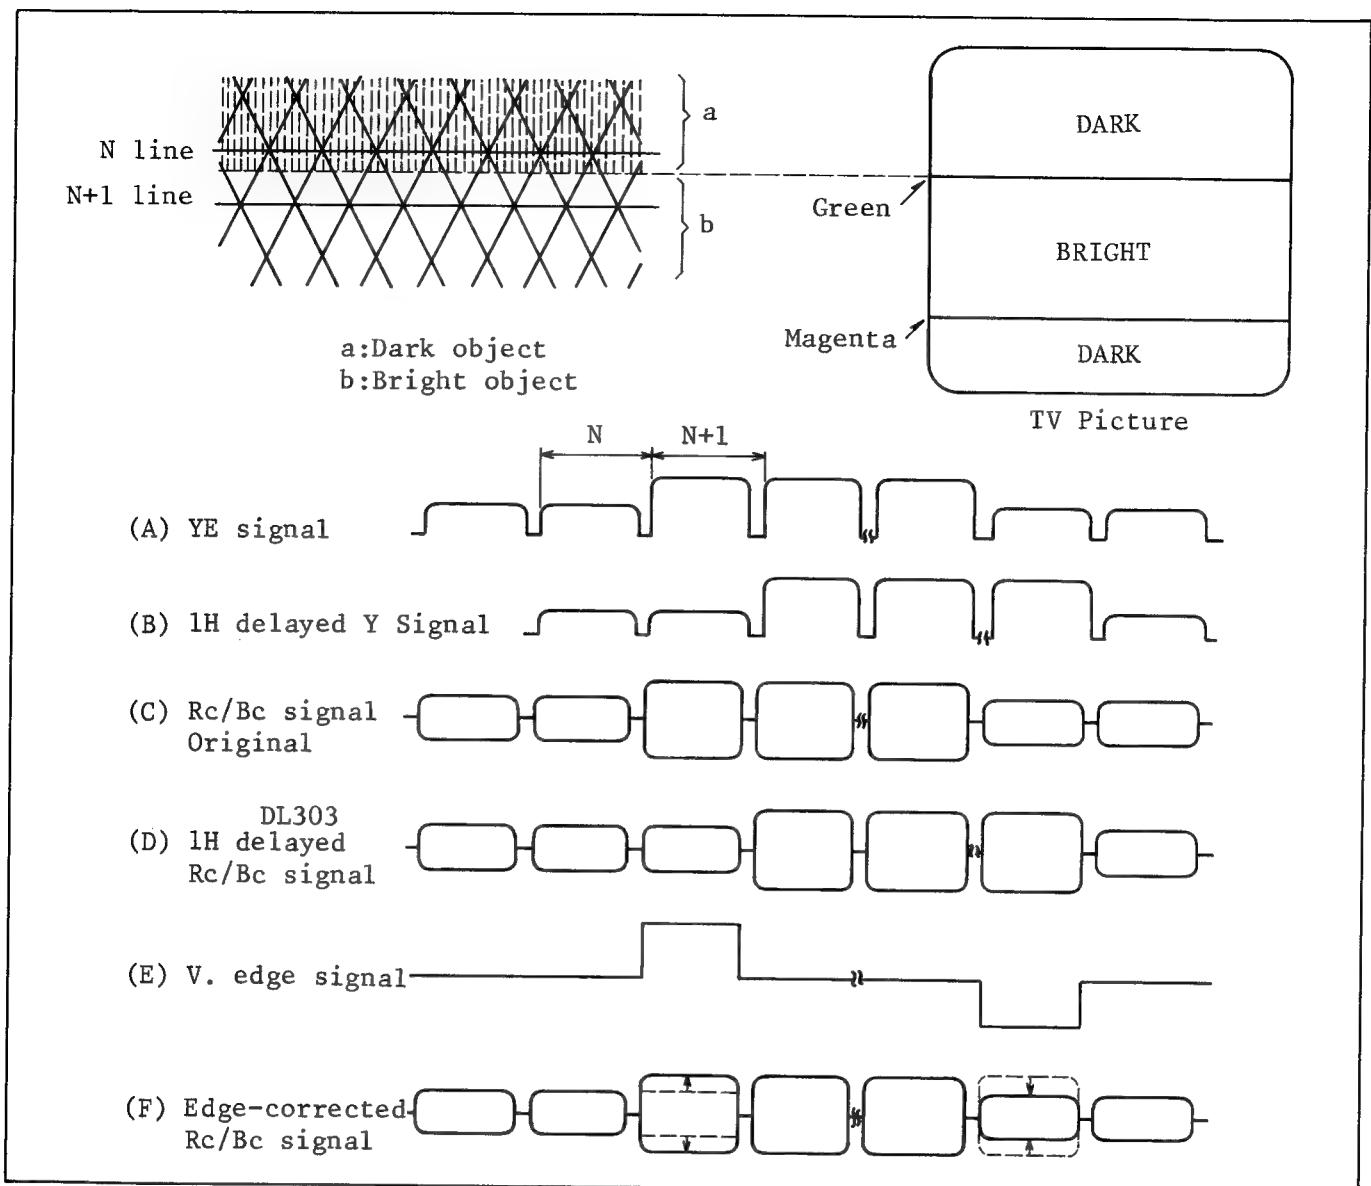

Fig. 12. Color Correction
When the camera views a dark-to-bright, or bright-to-dark transition as shown in Fig. 12, the undelayed Rc/Bc signal appears as in Fig. 12 (C), and the Rc/Bc signal delayed one line (1H) appears as in (D). When we make the transition from dark to bright the Rc/Bc (C) and (D) signals are not of equal level on the N + 1 line and an error signal (green) is created along the vertical edge of the transition.